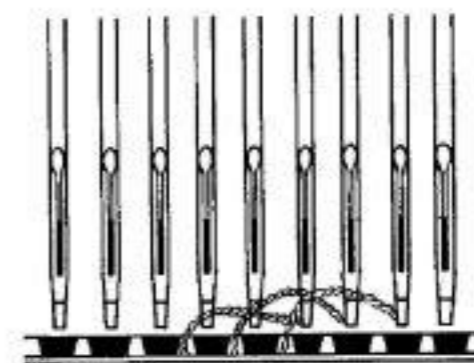

Fig. 25
- (1) Prior to raising the Attachment, turn Pitch Handle 3 pitches to the left.
- (2) Raise the Attachment and turn Pitch Handle one more pitch to the left. (See Fig. 25.)
- (3) Lower Attachment and knit Two Rows.
- (4) Turn Pitch Handle 3 pitches to the right.
- (5) Raise Attachment and turn Pitch Handle 1 more pitch to the right.